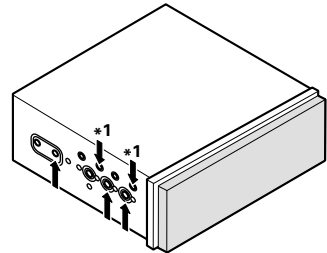

Fig. 14
- Fastening the unit to the factory radio mounting bracket. (Fig. 14) (Fig. 15) (Fig. 16)